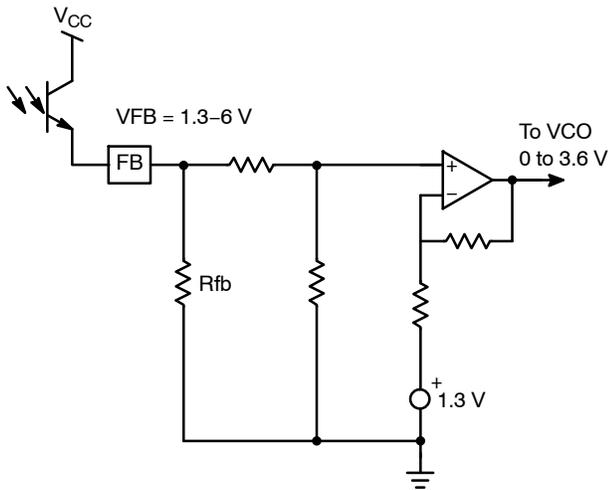

Figure 34. The OPAMP arrangement limits the VCO internal modulation signal between 0 and 5.0 V.
The designer needs to program the maximum switching frequency and the minimum switching frequency. In LLC configurations, for circuits working above the resonant frequency, a high precision is required on the minimum frequency, hence the  $\pm 3\%$  specification. This minimum switching frequency is actually reached when no feedback closes the loop. It can happen during the startup sequence, a strong output transient loading or in a short-circuit condition. By installing a resistor from pin 1 to AGND, the minimum frequency is set. Using the same philosophy, wiring a resistor from pin 2 to AGND will set the maximum frequency excursion. To improve the circuit protection features, we have purposely created a dead zone, where the feedback loop has no action. This is typically below 1.3 V. Figure 34 details the arrangement where the *internal* voltage (that drives the VCO) varies between 0 and 3.6 V. However, to create this swing, the feedback pin (to which the optocoupler emitter connects), will need to swing typically between 1.3 V and 6.0 V.
As shown in Figure 34, the *internal* dynamics of the VCO control voltage will be constrained between 0 V and 3.6 V, whereas the feedback loop will drive pin 5 (FB) between 1.3 V and 6.0 V. If we take the external excursion numbers, 1.3 V = 50 kHz, 6.0 V = 1.0 MHz, then the VCO slope will then be  $\frac{1 \text{ Meg} - 50 \text{ k}}{4.7} = 202 \text{ kHz/V}$ .